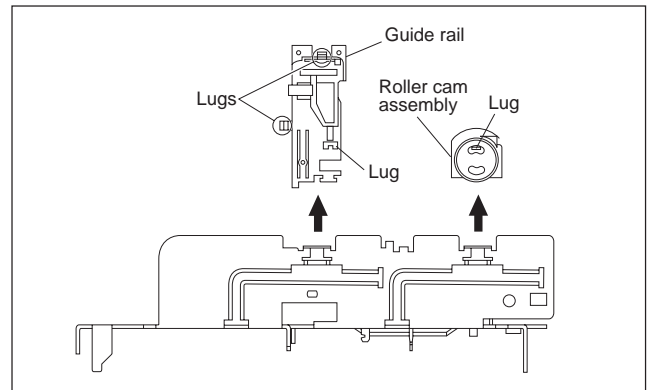

Fig.3-2-3a
- (1) Remove the guide rail and roller cam assembly. (See Fig.3-2-3a.)
- (3) Lugs on the guide rail and one lug on the roller cam assembly)